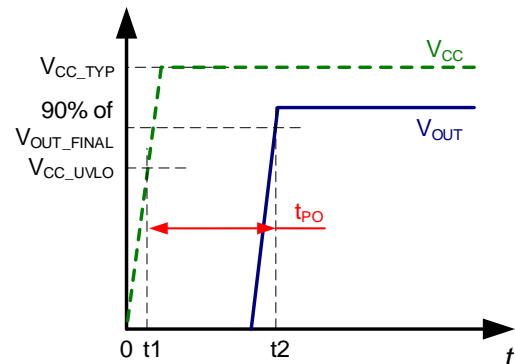

Figure 4: Power-On Time (t_{PO})
2. t_2 : V_{OUT} settles to 90% of its final value under an applied primary current (see Figure 4).